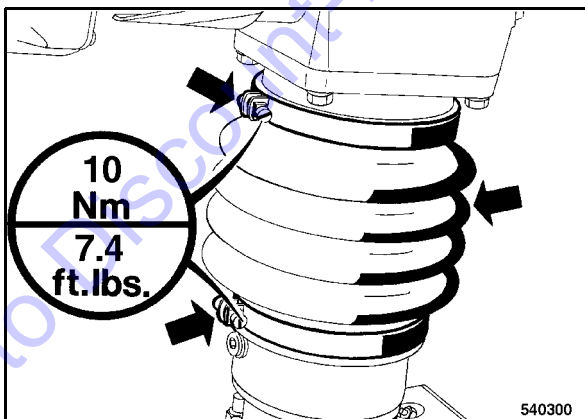

Fig. 41
- Check hose clamps for tight fit (Fig. 41).